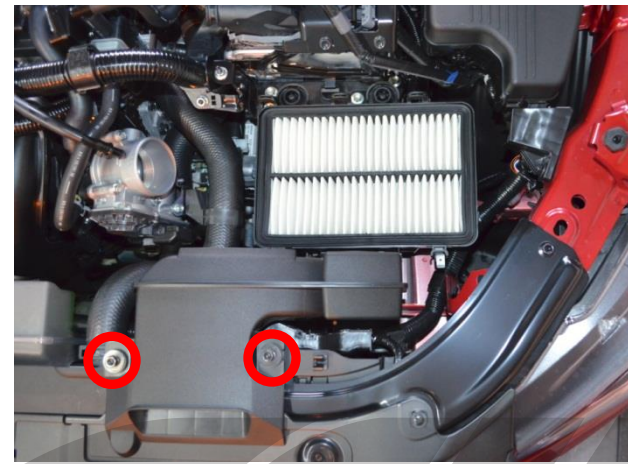

Figure 1g
- g) Remove two (2) 10mm bolts that hold lower air box (Red Arrows in Figure 1g) and remove it from the car. Simply pull up.
- g) Remove two (2) 10mm bolts that hold the lower air box (Red circles in Figure 1g) and remove it from the car. Simply pull up.